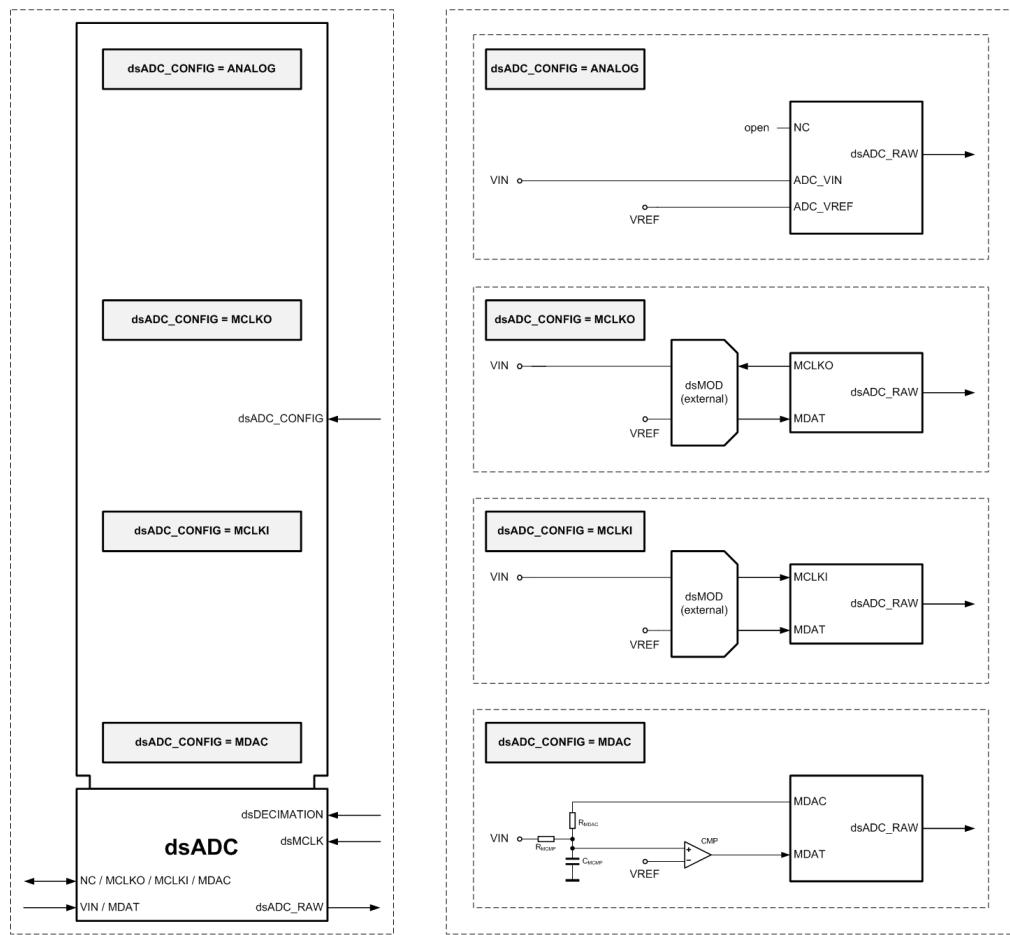

Figure 17: Delta Sigma ADC Configurations  $dsADC\_CONFIG$  (Internal: ANALOG vs. External: MCLKO, MCLKI, MDAC)
Table 11: Delta Sigma ADC Configurations (Figure 17), Selected with  $dsADC\_MCFG_A$  and  $dsADC\_MCFG_B$ .
Each external delta sigma modulator channel (dsMOD) has two signals (see Figure 17), one dedicated input, and one programmable input/output. The configuration of the external delta sigma modulator interface is defined by programming associated registers. When selecting external delta sigma ADC, the associated analog ADC inputs are configured as digital inputs for the delta sigma signal data stream MDAT.
*Table 17: Delta Sigma R-C-R-CMP Configurations (See Figure 17)*